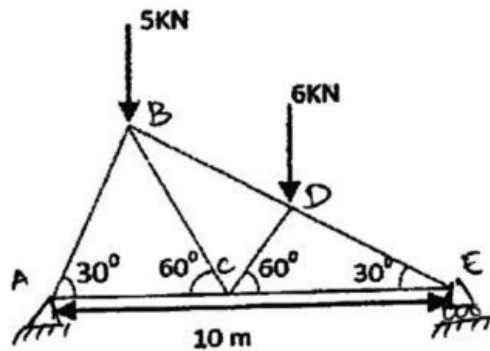

Fig. 1
- (b) A truss of span 10 meters is loaded as shown in fig 1. Find the forces in all the members of the truss.